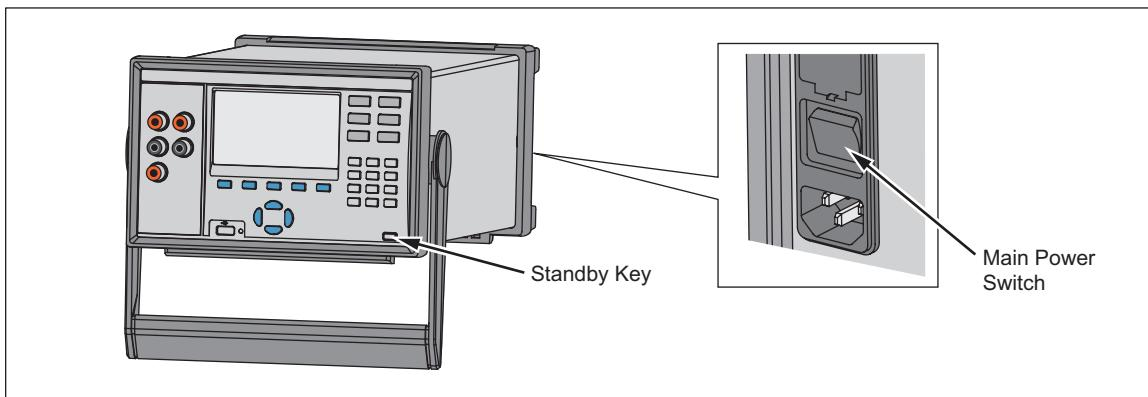

Figure 2-4. Main Power Switch and Standby Key
As shown in Figure 2-4, the Product has a main power switch located on the rear panel that supplies power to the unit, and a Standby key (Ⓐ) on the front panel that puts the Product in a standby mode. Push the (I) side of the main power switch to power on the Product. As the Product powers on, a startup screen is shown on the display while the Product performs a self-check. This self-check can take up to 2 minutes to complete and if the Product detects any errors, an error message is shown on the display that contains the error description along with an error code to help troubleshoot the problem (see “Error Messages” in Chapter 7).